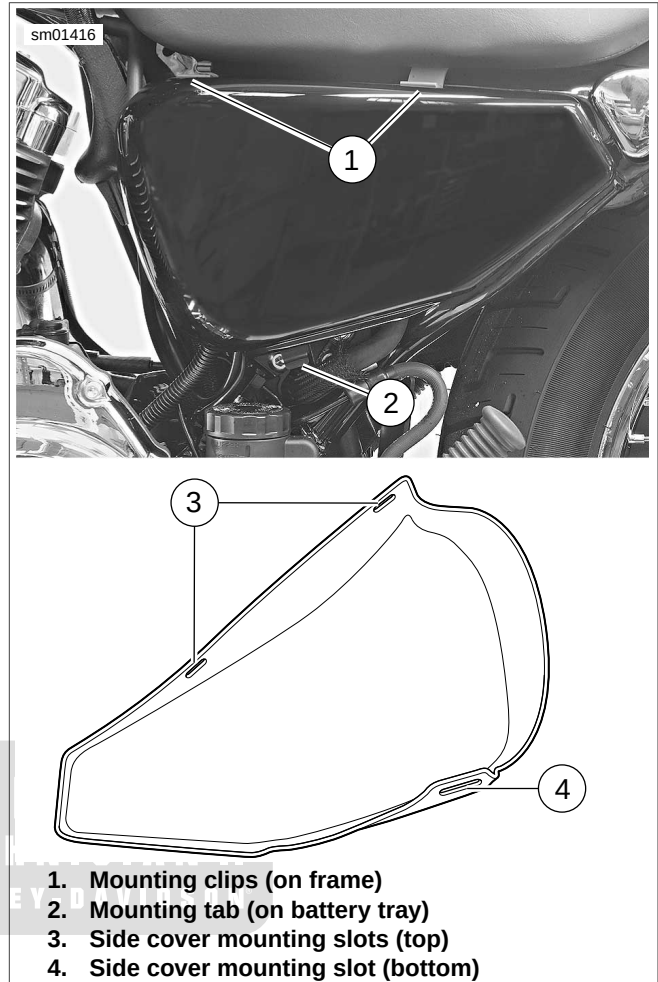
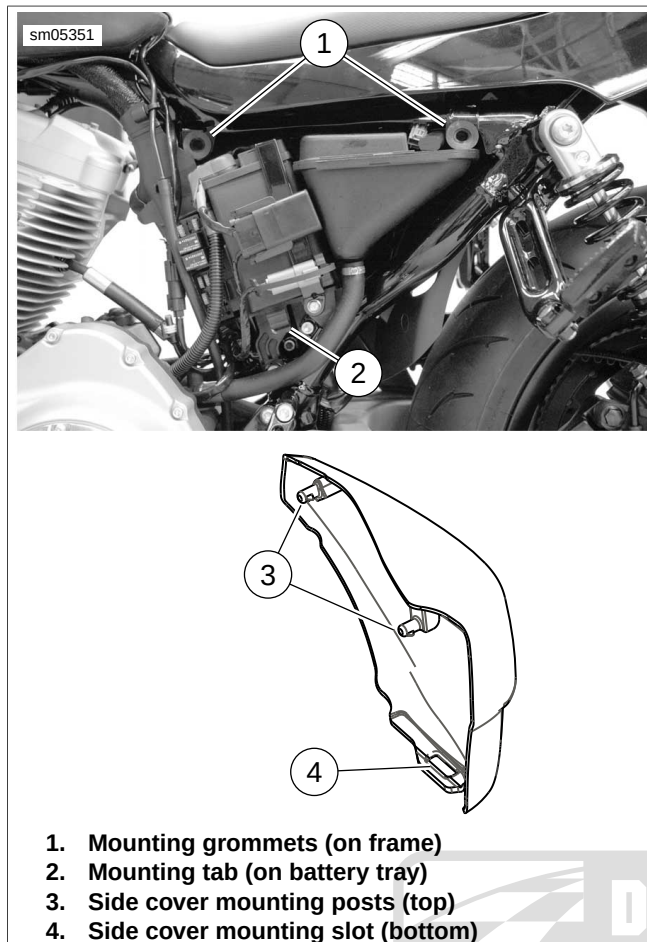

Figure 2-159. Left Side Cover: XL Models
Figure 2-160. Left Side Cover: XR Models
See Figure 2-159 or Figure 2-160. The left side cover is secured to the motorcycle by two upper slots that fit into clips (XL models) or two molded-in posts that fit into grommets (XR models). The side cover is also secured to the vehicle by a bottom slot that fits onto a mounting tab on the battery tray.
2. See Figure 2-159 or Figure 2-160. Grasp left side cover at upper corners and gently pull away from plastic mounting clips (XL models) or grommets (XR models) on frame.
- a. **XL models:** see Figure 2-159. Line up top slots of side cover with mounting clips (1) on motorcycle frame, aligning with front clip first. Press top of side cover into clips until snug.
- b. **XR models:** see Figure 2-160. Line up molded-in posts in top of side cover with mounting grommets on motorcycle frame. Press posts in side cover into grommets until snug.
1. See Figure 2-159 or Figure 2-160. Grasp side cover at upper corners and gently pull away from plastic mounting clips (XL models) or grommets (XR models) on frame.